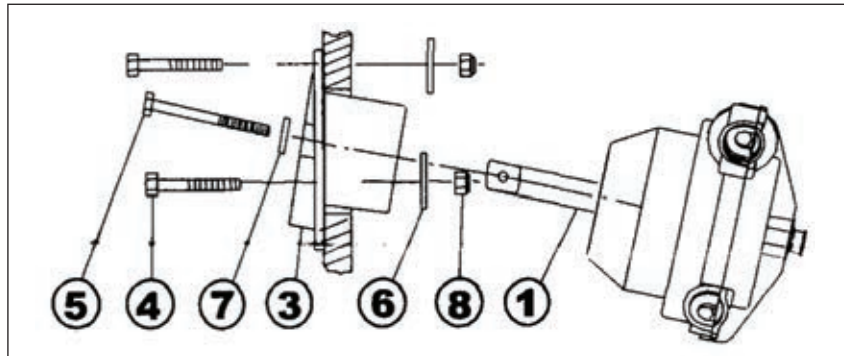

Figure 3.
Secure the helm mounting plate (item 3) in position using three each of the 2-1/8" long hex bolts (item 4), large OD flat washers (item 6), and locknuts (item 8). Be sure the washers are on the inside of the dash as shown (see figure 3). Tighten securely.
Referring to figure 3, above for the most common applications: Insert shaft of helm (item 1) through hole in the mounting plate so that the helm's cable entry spigot is facing the direction of cable routing when viewed from the front of the dash. Attach the helm securely to the mounting plate using washers (item 7) and hex bolts (item 5) threaded into the helm.